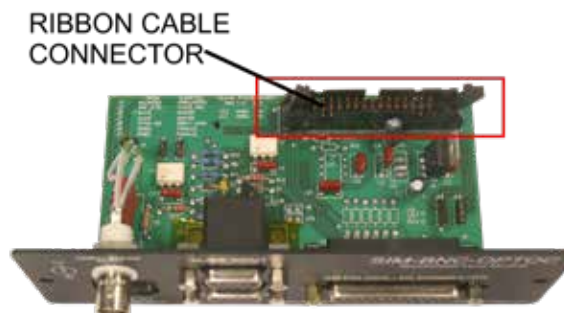

Figure B.2.35 – Ribbon Cable Connector Location on SIM-BNC-OPTOC
2. Use a #2 Phillips screwdriver to remove and retain the two (2) screws located at the edges of the input card.
3. Unplug the ribbon cable from the back of the input card by pressing down on the two retaining tabs at the sides of the cable. See **Figure B.2.35**.